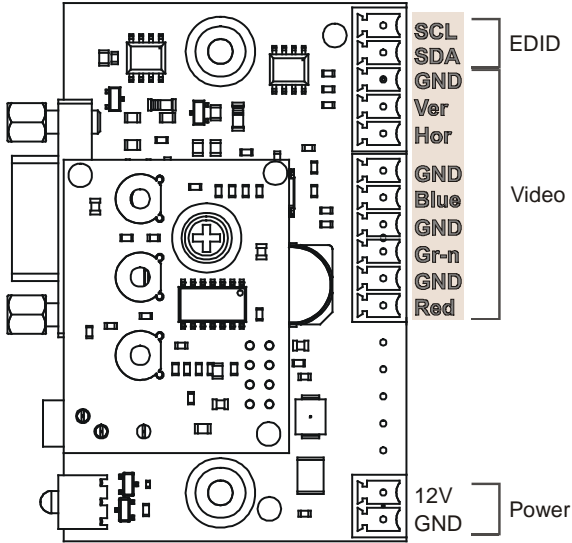

Figure 2: Terminal Block Pinout
4. Connect the 12V DC power supply to the power terminal blocks (connect the wire labeled “+” to the +12V pin, and the wire labeled “-” to the GND pin) taking care that the polarity is correct (see Figure 2).
The 13-pin terminal block is an easy plug-in connector for attaching the outputs. Follow the colors of the color-coded sticker on these terminals for proper connection of the cable. Figure 2 defines the pinout for the terminal block.